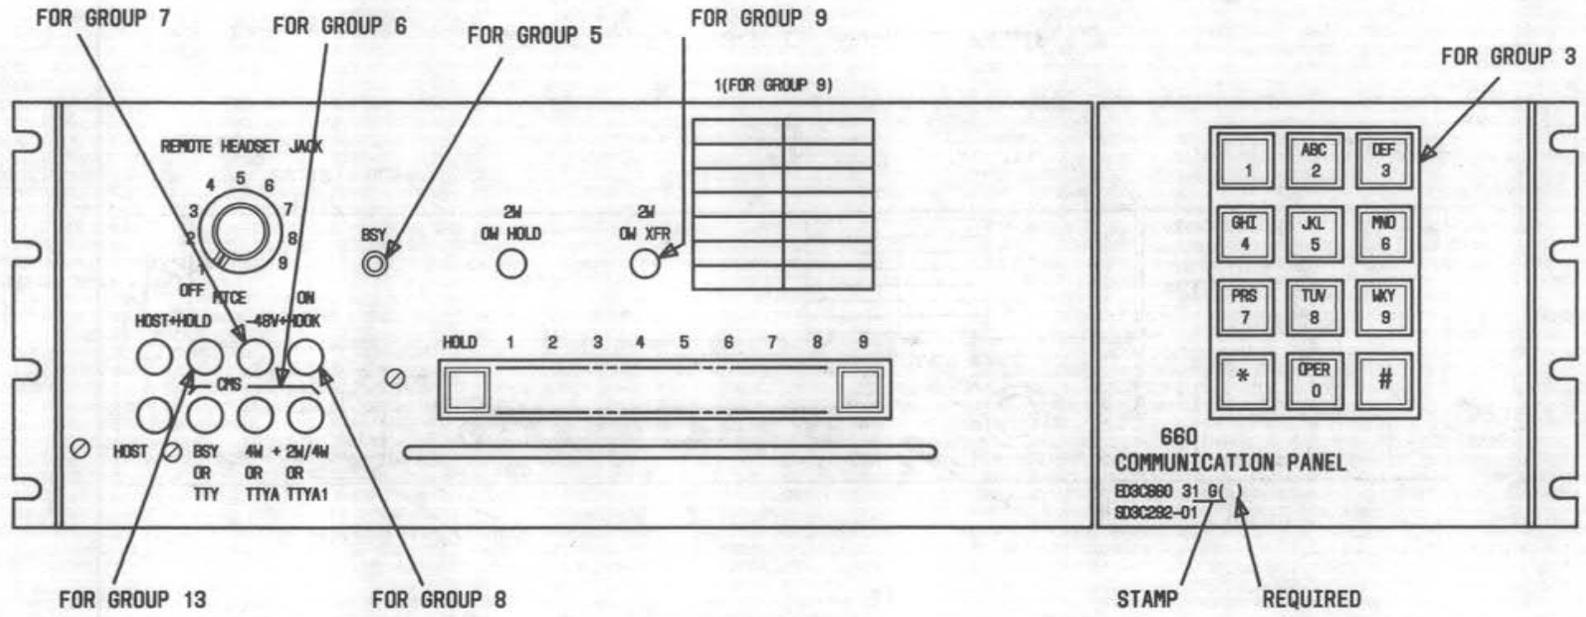

Fig. 2—ED-3C660-31 Communication Panel
**2.04 ED-3C660-31:** The ED-3C660-31 (Fig. 2) is designed to occupy two 2-inch mounting plate spaces for use in DSX1, DSX1C, or DSX2 cross-connect bays.